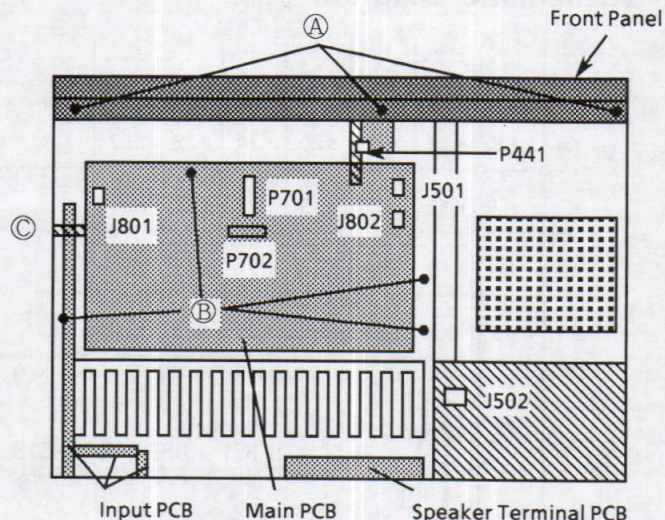
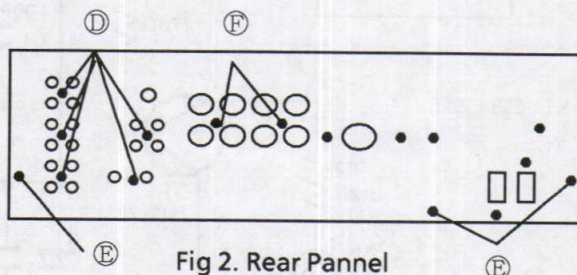

Fig 1. Top View
Fig 2. Rear Panel
- 1) Remove the 3 revets ④ fastening top of the Front Panel (Fig.1), and the 5 screws ⑤ fastening bottom of the Front Panel (Fig.3).
- 2) Disconnect the connector P441 of Master Volume PCB (Fig.1), then remove the MASTER VOLUME knob.
- 1) Remove the 5 screws ⑥ fastening the Input Terminal (Fig.2) and release the rebet ⑦ fastening the Input PCB (Fig.1).
- 2) Remove the 2 screws ⑧ fastening the Bottom Cover (Fig.3) and remove the 3 screws ⑨ fastening the Rear Panel (Fig.2).
- 3) Remove the connector J801 (Fig.1).
- 1) Remove the 2 screws ⑩ fastening the Speakers Terminal (Fig.2).
- 2) Remove the 5 screws ⑪ fastening the Input Terminal and remove the 3 screws ⑫ fastening the Rear Panel (Fig.2).
- 2) Remove the Input PCB. (Refer to the procedure of item 4.)
- 3) Remove the 4 screws ⑭ (Fig.1).
- 4) Remove the Speakers Terminal PCB. (Refer to the procedure of item 5.)
- 5) Remove the 6 connectors J801, J802, J501, J502, P701 and P702 (Fig.1).